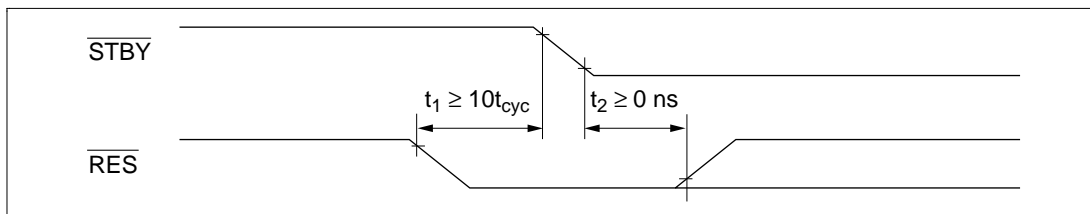

Figure E.1 Timing of Transition to Hardware Standby Mode
- (1) To retain RAM contents with the RAME bit set to 1 in SYSCR, drive the $\overline{\text{RES}}$ signal low 10 system clock cycles before the $\overline{\text{STBY}}$ signal goes low, as shown in figure E.1. $\overline{\text{RES}}$ must remain low until $\overline{\text{STBY}}$ signal goes low (minimum delay from $\overline{\text{STBY}}$ low to $\overline{\text{RES}}$ high: 0 ns).